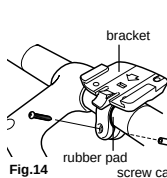

Fig.14
- Use either 1mm- or 2 mm-thick pads if necessary, according to handlebar diameter. Attach the bracket close to the handlebar stem (fig. 14).